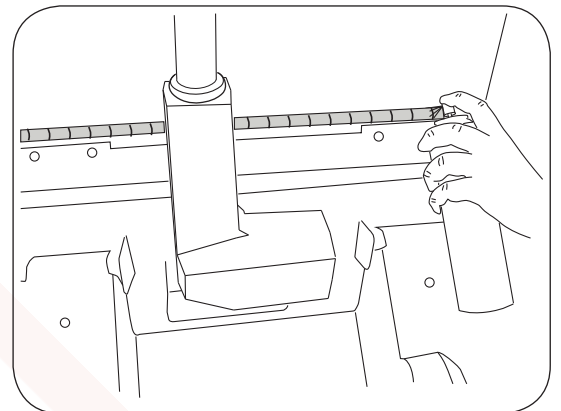

Figure 47. Lubricating the Backrest Hinge
- Lubricate moving parts (such as back and storage cover hinges) with a food grade silicon lubricant (Figure 47). Cover surrounding area to protect from overspray. Wipe away excess lubricant.
Tables with Drawer Warmer and Outlet (Models 6001 w/Outlet, 6501 and 6801) (Figure 47)